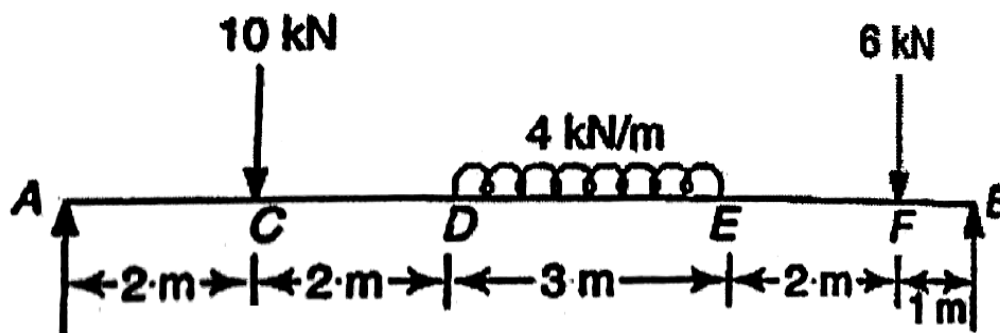

Fig. 1
- (b) A 10 meter long simply supported beam carries two point load and uniformly distributed load as shown in Fig. 1. Draw shear force and bending moment diagram. Also calculate maximum bending moment. [12]